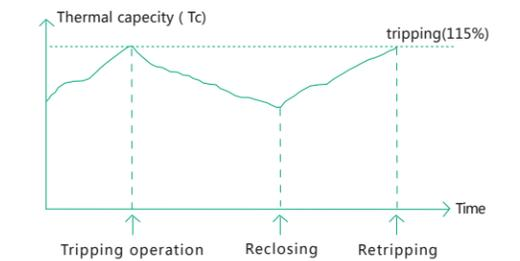

Figure 2 Thermal memory characteristics with auxiliary power
e) When auxiliary power is equipped for control unit, thermal capacity decreases after tripping. Thermal capacity generated by previous current before reclosing will be memorized. That is thermal capacity decrease after tripping and continues to change according to current after reclosing. Please refer to Figure 2.